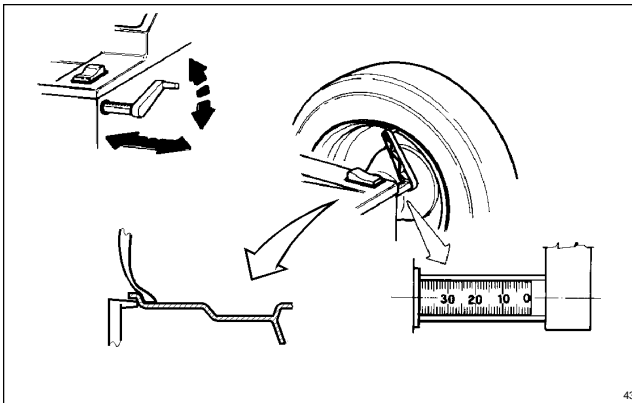

Fig.42
**A.** Measure the rim offset and diameter with the gauge as shown in Fig.42. Hold the gauge steady until the displays blink the value of the rim diameter (left) and rim offset (right). Values will be entered automatically.
**B.** Rim offset can be entered manually if desired. Measure the rim offset with gauge (Fig.42).